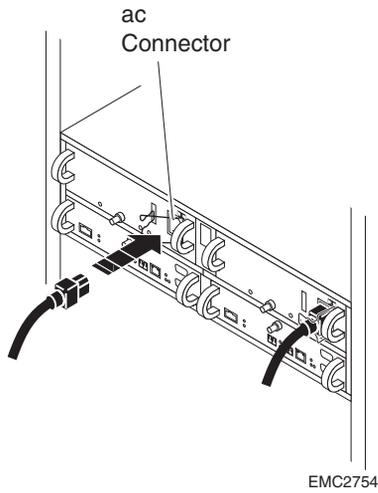

Figure 3-17 Plugging in the ac Power Cord
3. Make sure any power switch on the replacement module is off before you plug the ac/dc power cord into the new supply. On ac modules, attach the wire retention bail for strain relief (see Figure 3-17). Turn a power switch to the on position after you plug in the power cord.